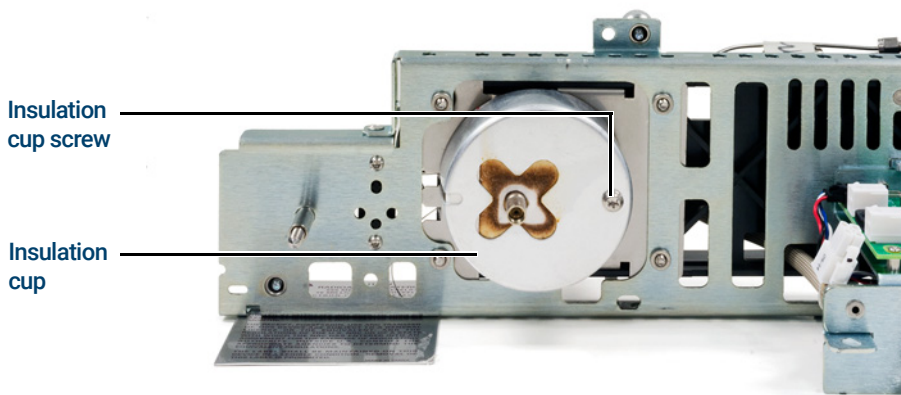

Figure 22. Detector insulation cup
- 33 Use a T20 Torx driver to remove the screw securing the insulation cup to the detector module assembly. See Figure 22.